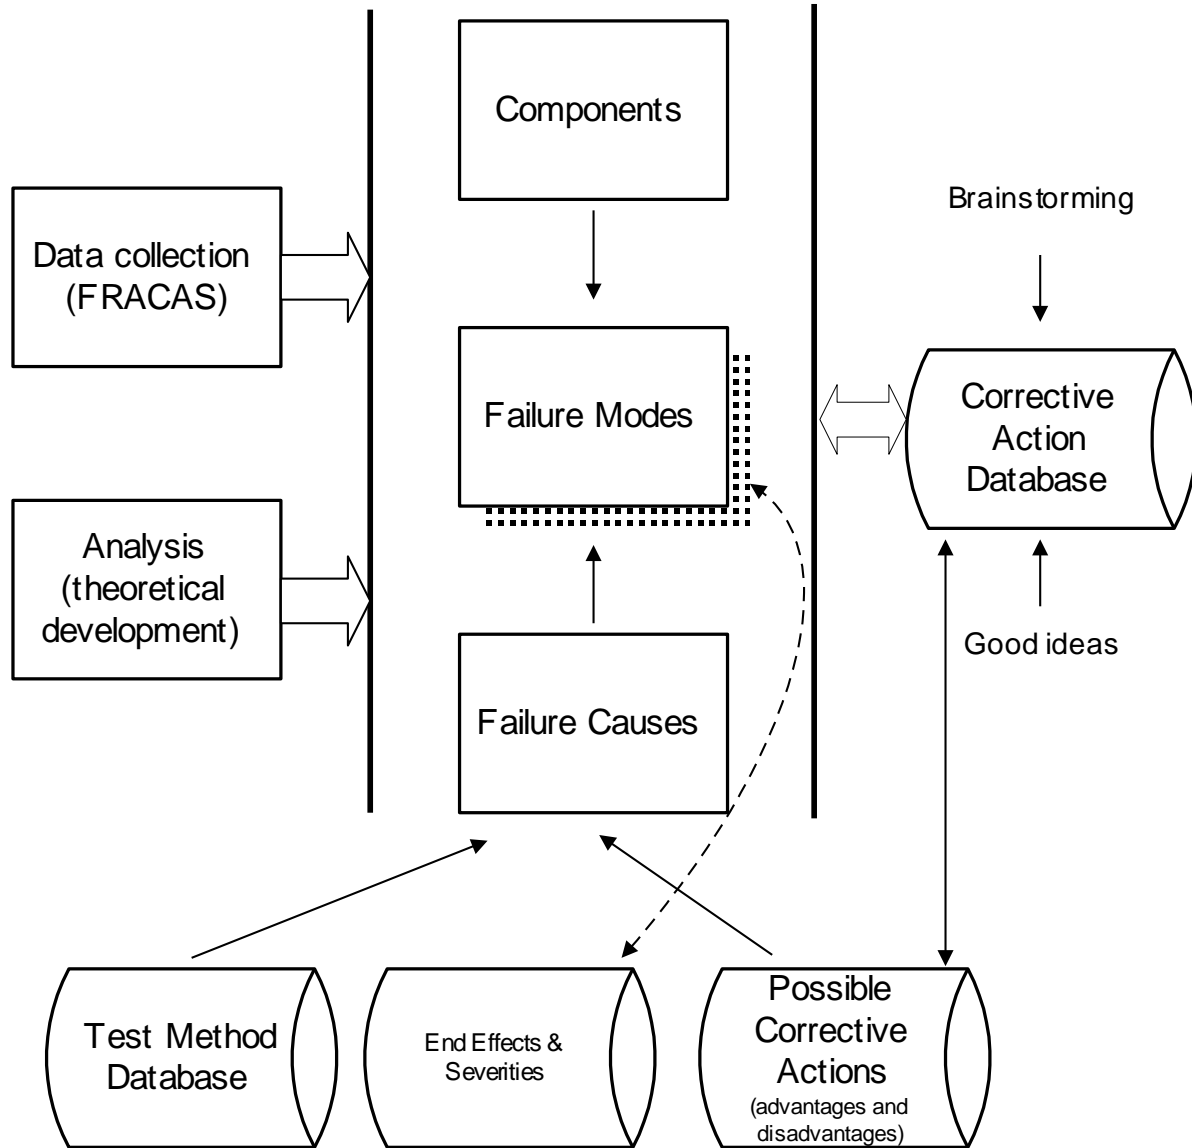

Figure 1. The Declarative Knowledge of IFMEA
Fig. 1 shows DK as part of the FMEA KB.
Note that there are two different sources for knowledge of failure modes and causes (see Fig. 1): failure reporting and failure analysis, leading to Corrective Action (CA) and Preventive Action (PA), respectively. Considering that potential (from analysis) or acted (from FRACAS) failure modes are treated as a reality, we will refer to both CA and PA stored in the KB as “Corrective Action”.